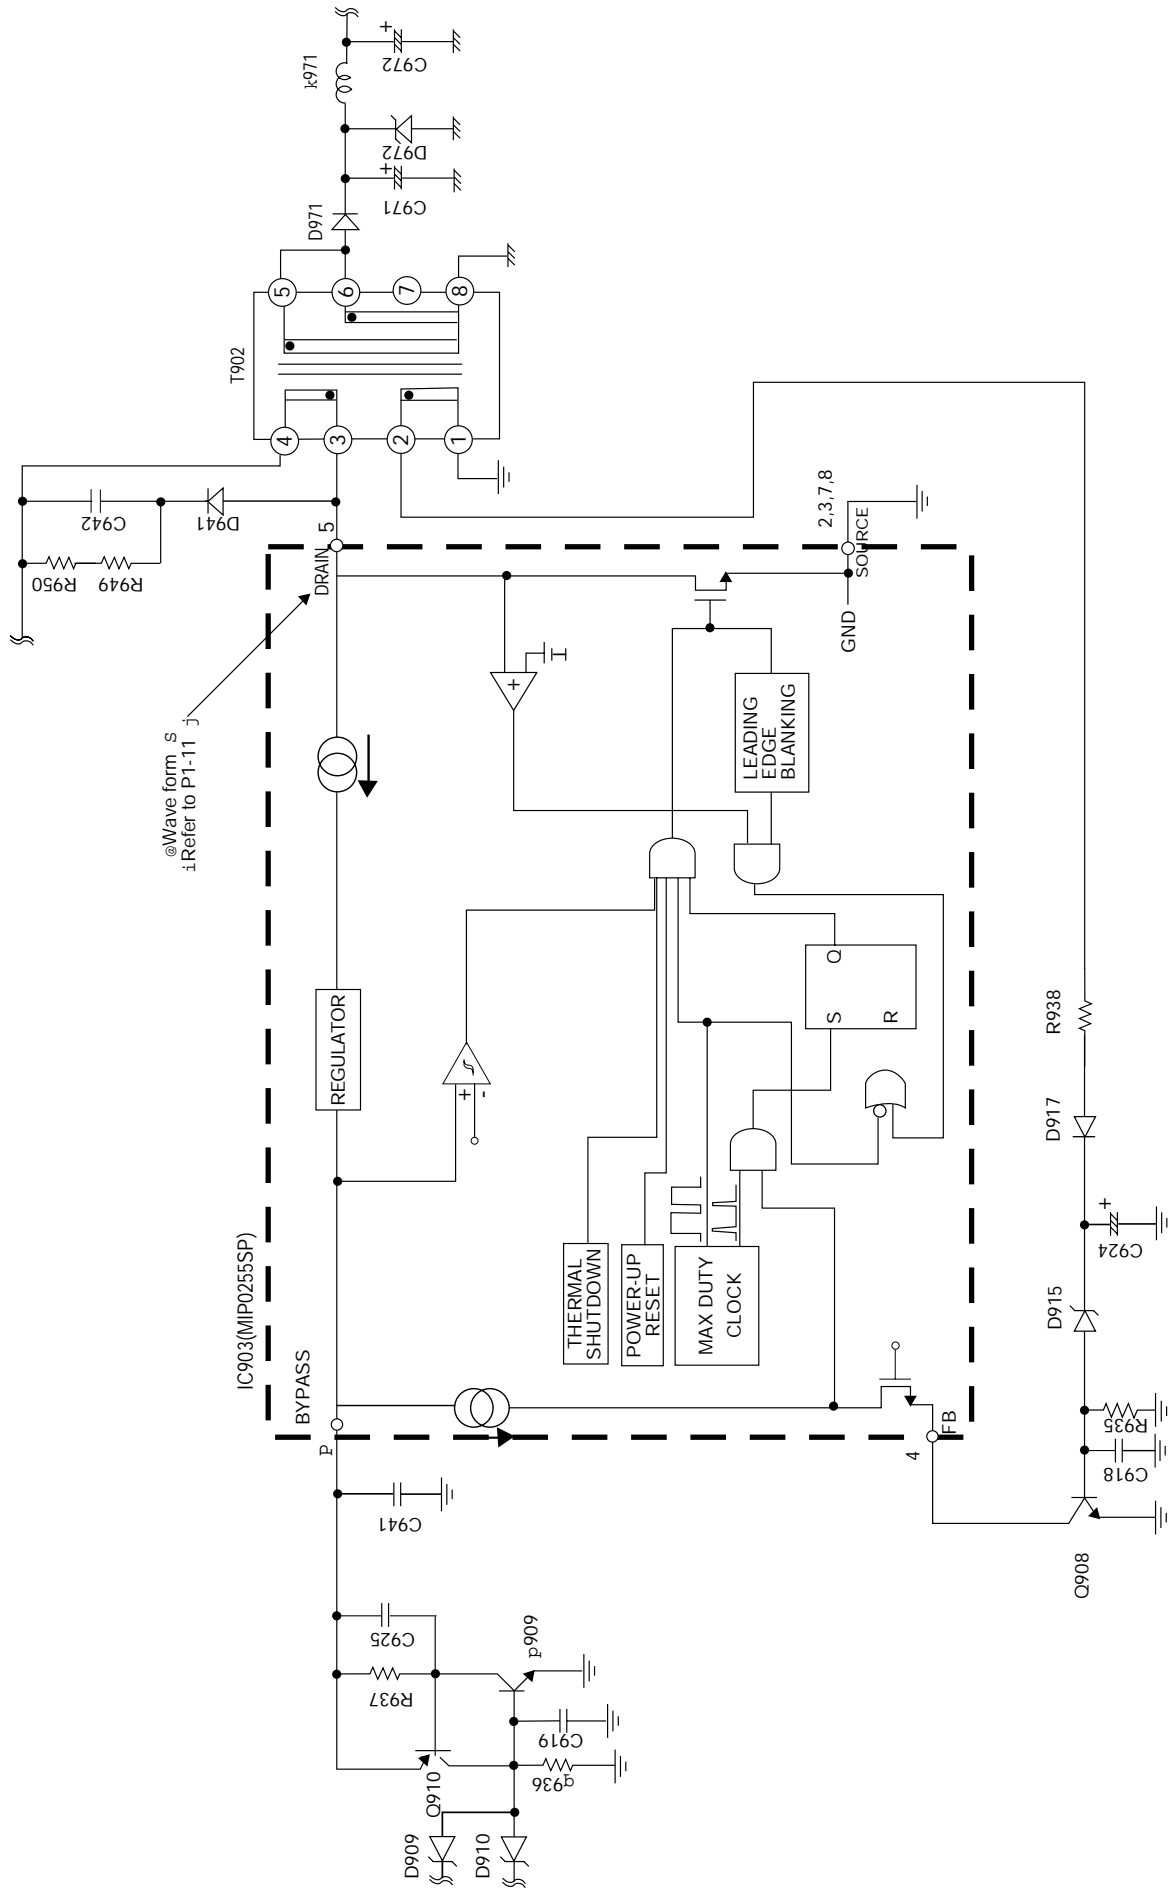

Figure 3. IC903 (MIP0255SP) block diagram and peripheral circuit
- (1) The sub power uses the self-excited type regulator MIP0255SP (IC903) produced by Panasonic. (See Fig.3)
- (2) When the power switch is turned ON, the rectified and smoothened DC voltage (AC voltage $\times \sqrt{2}$) is supplied to pin5 of IC903, and is charged to C941 through Pin 1. When pin1 reaches 5.7V, the current supply from pin3 is cut off to start oscillation in IC903, and the output FET is put into operation. (Since Q902 is OFF, IC902 and IC 903 do not operate.)
- (3) This also induces the voltage at pin2 of T902 and on the secondary side. These outputs are respectively rectified, and are used as the power for control on the primary side and the power for the MPU and heater.
- (4) The voltage fluctuation on the secondary side is restricted by controlling the current in pin 4 of IC903 (F/B terminal) by using the induced voltage in pin2 of T902.